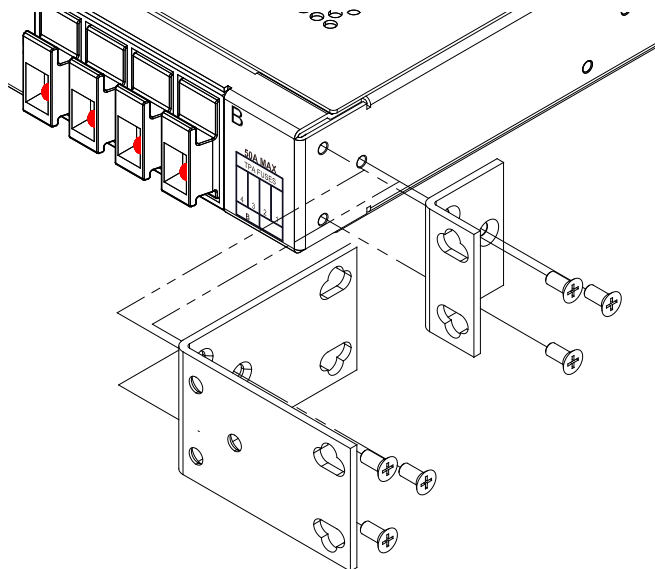

Figure 2 - Bracket Orientation
1. If necessary, remove the three screws and reposition/re-align brackets on the sides of the distribution panel, as shown in Figure 2.